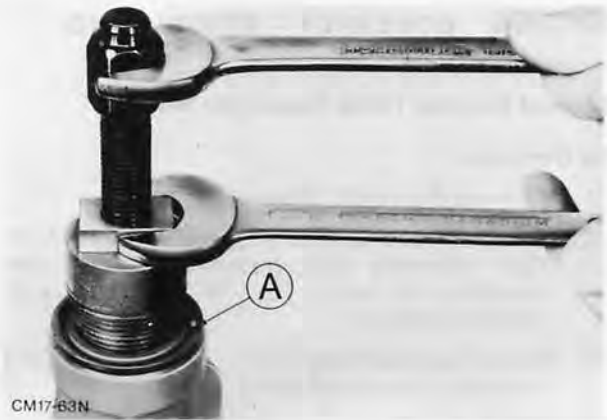

Fig. 145. Remove transmission extension oil seal holding Special Tool with a spanner
- 2. Remove oil seal using Tool 17-001, Fig. 145.